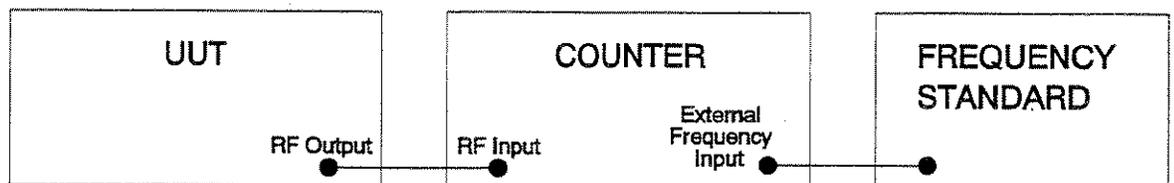

Figure 7-2. Internal Reference Oscillator Adjustment Setup
4. Connect the equipment as shown in Figure 7-2 (where the UUT is the signal generator.)